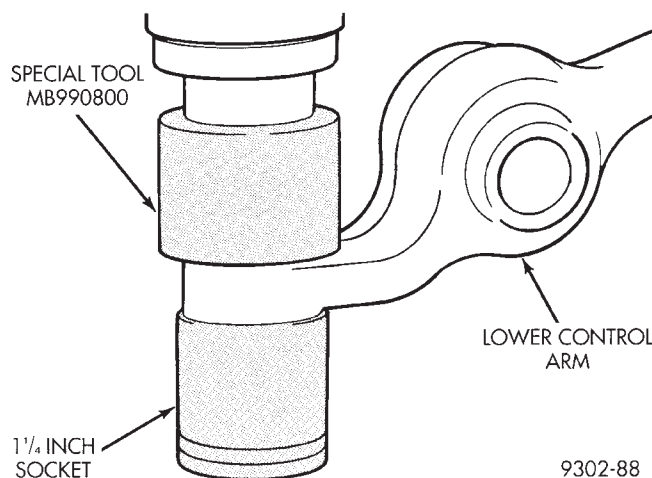

Fig. 86 Installing Ball Joint Seal
(1) Remove the ball joint seal requiring replacement from the lower control arm. Ball joint seal is removed by prying it off lower control arm with a screwdriver.
(2) By hand, initially install the replacement ball joint seal on the lower control arm.
(3) Support the lower control arm for installation of the ball joint seal using a 1 1/4 inch socket (Fig. 86). Position the 1 1/4 inch socket, lower control arm and Seal Installer, Special Tool MB-990800 in an arbor press (Fig. 86).
(4) Using Installer, Special Tool MB-990800, press seal onto ball joint housing until it is squarely seated against top surface of control arm (Fig. 86).